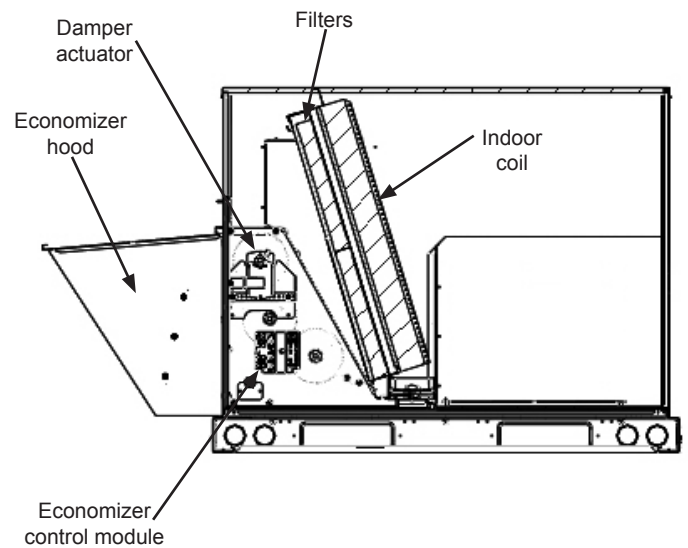

Figure 3
3. Install damper assembly into unit. Fit opening in bottom of damper assembly over the return air opening. See Fig. 3.
5. With hood assembled, fit the mating flange on hood top underneath the “knuckle” on the top seal panel. Attach hood over economizer as shown in figure 3, 4 and 9.